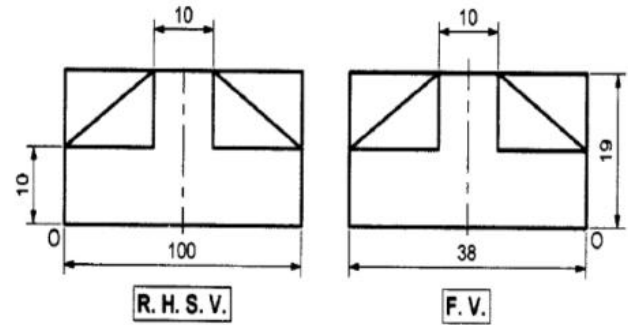

Fig.03
3. (W-18) Draw isometric view of the Fig.03 given below.
[Refer to Fig.03 from Paper: Winter 2018]